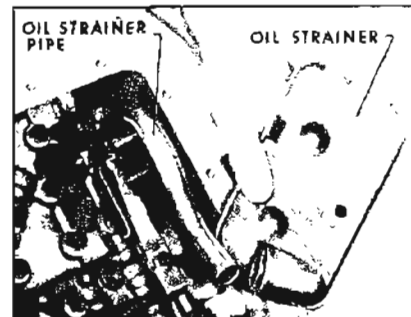

Figure 5-355
15. With a turning motion, install oil strainer to oil strainer pipe. See Figure 5-355.